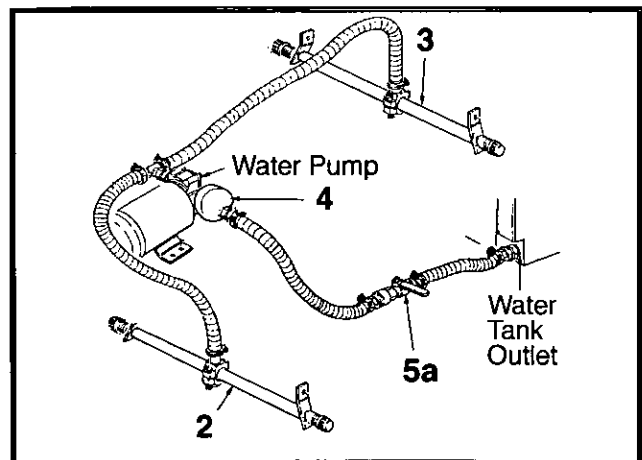

Figure 5-10 Water Spray System.
The in-line filter (4, Figure 5-10), located at the pump inlet, filters the water before it enters the pump and spray bars.
1. Turn on the main water control valve (5a, Figure 5-10).
3. Check that both drum spray bars (2 and 3, Figure 5-10), are correctly functioning. Clean any jets that are blocked.
1. Close the water control valve (5a, Figure 5-10).
4. Reinstall the end cap. The water will now by-pass the water pump and flow under gravity from the water tank when the Water Control ON/OFF Valve (3, Figure 5-10) is ON.